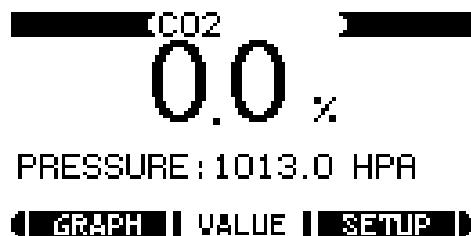

Figure 4: VALUE mode screenshot
The default mode after the start-up is the VALUE mode. It displays the name or chemical formula of the gas whose concentration is being indicated, the indicated concentration, and the pressure in the sampling cell, (See Figure 4 below)
If the navigation button beneath any of these options is pressed further options are revealed. These can be accessed through the menu system described below. If the navigation button on the right is pressed, when the display is as shown in Figure 4, the SETUP menu will be revealed and so is referred to as the SETUP button.
- 2i) While in the VALUE mode (shown in Figure 4, the default mode after switch on) press the right-hand navigator button – the SETUP button.
- 3i) While in the VALUE mode (shown in Figure 4, the default mode after switch on) press the right-hand navigator button – the SETUP button.
- 4i) While in the VALUE mode (shown in Figure 4, the default mode after switch on) press the right-hand navigator button – the SETUP button.
- 5i) While in the VALUE mode (shown in Figure 4, the default mode after switch on press the right-hand navigator button – the SETUP button).
- 6i) While in the VALUE mode (shown in Figure 4, the default mode after switch on) press the right-hand navigator button – the SETUP button.